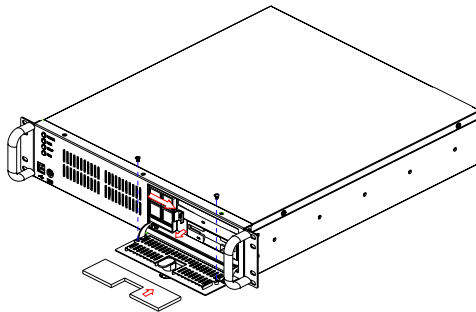

Figure 3.6: Replacing the filters
3. To pull out the fan filter, push the hook and slide it rightwards. (*see Figure 3.6*) Clean the filter with a soft brush or wash the dust away from the filter with fluent water and let it dry thoroughly.